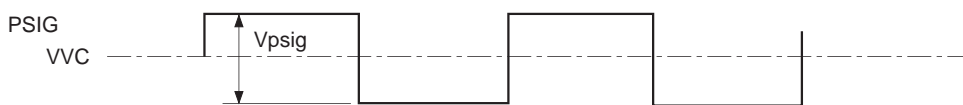

Fig. 1
- 1) During 4:3 display, input the voltage amplitude symmetrical to V_VC as shown in Fig. 1.